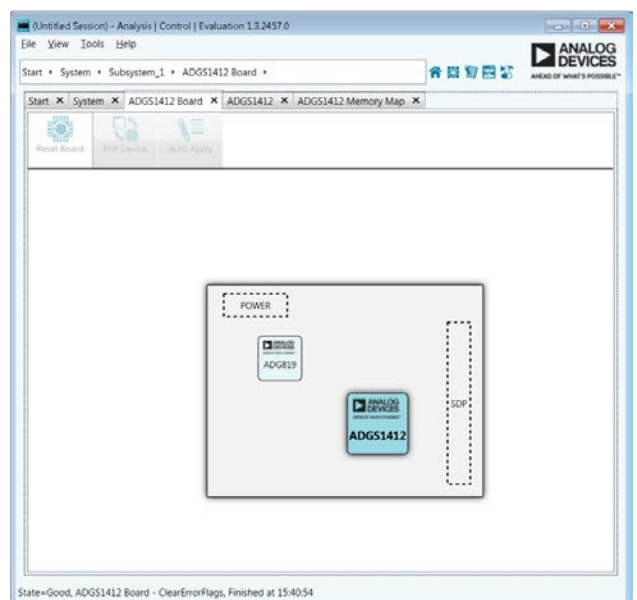
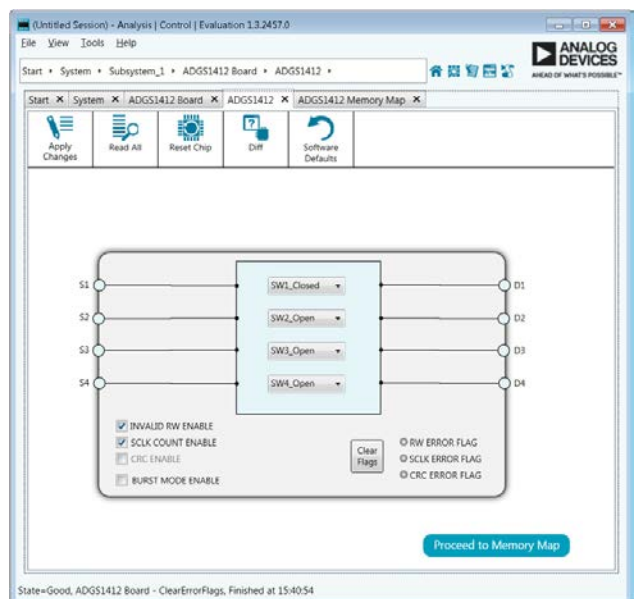

Figure 2. Evaluation Board View of the EVAL-ADG1412SDZ
Figure 3. Chip Block Diagram View for the ADG1412
4. Double-click on the evaluation board plug-in to open the evaluation board view seen in Figure 2.
5. The chip block diagram can be accessed by double-clicking on the ADGS1412 chip (see Figure 2). This view provides a basic representation of functionality of the board. The main functions are labeled in Figure 3.